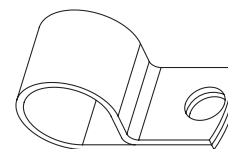

FIGURE 5-51
- When installing the flexible conduit, secure the conduit at intervals not to exceed 5 ft (1.5 m) before and after each bend. The flexible conduit **cannot** slide in the clamps used for mounting. Make certain mounting clamps do not pinch the conduit. The following style clamp, P-clip, (Part No. 436150) is a suitable type for use on flexible conduit. See Figure 5-51.